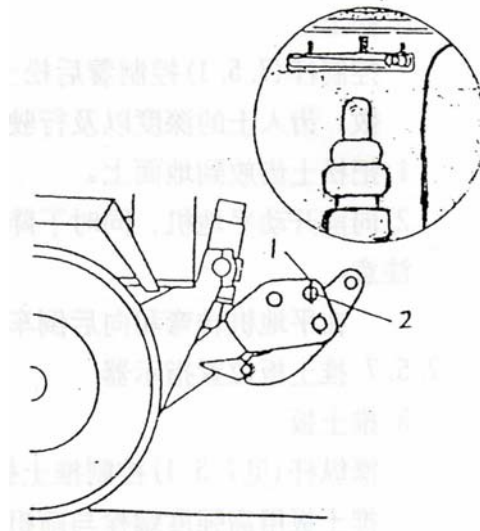

Fig. 24
1. Take off spring pin (Fig.24/1).
2. Pull out the pin shaft (Fig.24/2) , each tooth can be placed on the predetermined position, and then drive the pin shaft in and insert spring pin.
1. Running position (Fig.24), swing the teeth in and lift the scarifier completely;